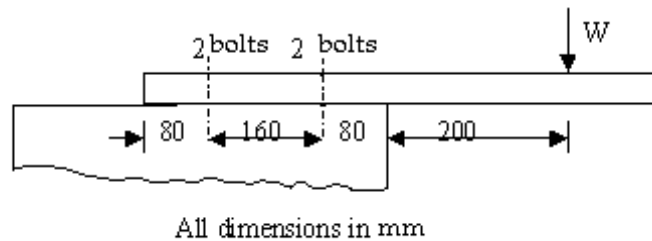

Figure 1:
5. A mounting plate for a drive unit is fixed to the support by means of four M12 bolts as shown in Figure1. The core diameter of the bolts can be considered as 9.858 mm. Determine the maximum value of 'W' if the allowable tensile stress in bolt material is 60 MPa.